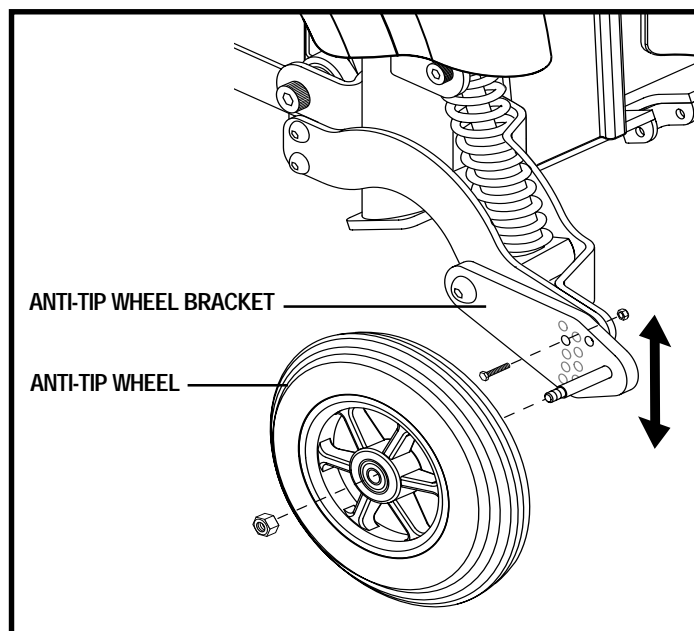

Figure 22. Anti-Tip Wheel Assembly
2. Remove the nut and bolt on the anti-tip bracket. See figure 22.